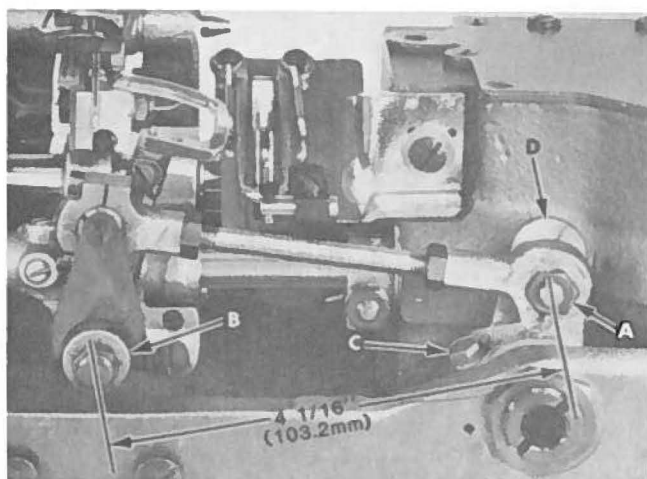

Fig. 5
With the looper at extreme right end of travel, check location of the right looper connecting rod bearing using gauge No. 21227 CX. Remove nut (A, Fig. 5) and place hole of gauge over threaded stud. The left end of gauge should locate against the RIGHT side of looper rocker cone (B). If adjustment is necessary, loosen clamp screw (C) and reposition looper drive lever (D) as required, then tighten screw (C).
If gauge is not available, check setting with a scale. Distance between the centerline of rocker cone and centerline of looper drive lever stud should be 4 1/16 inch (103.2mm) as shown in Fig. 5; when looper is at its extreme right end of travel.